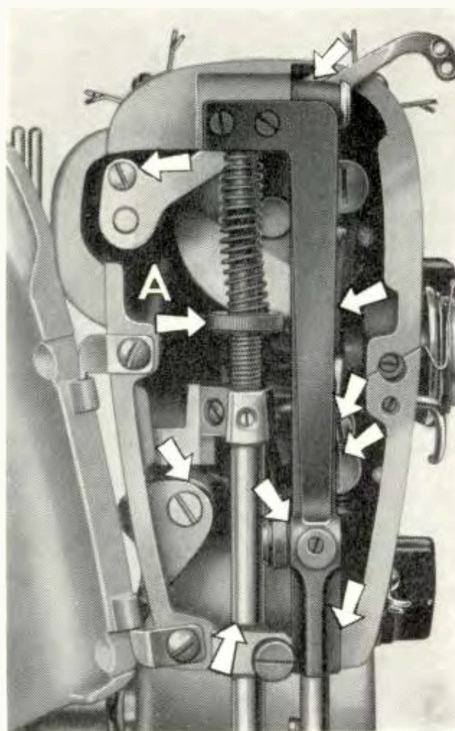

Fig. 64.
Other places where the machine needs oiling occasionally are shown by arrows in Figs. 64 and 65. To get at them you pull open the cover plates at the left end of the upper arm and at the back of the machine (with the spool pins fixed to it).
2. Feed dog may be lowered. Drop feed knob (25) should be turned so that the stitch symbol is in front.
3. Insufficient pressure on the pressure foot. Increase the pressure by turning the regulating screw (A, Fig. 64) to the right.
6. Insufficient pressure on the presser foot, especially when sewing thick fabrics. Turn the pressure regulating screw (A, Fig. 64) to the right.
3. Presser foot pressure too great. Turn regulator screw to left (A, Fig. 64)
1. Too much pressure on the presser foot. Reduce by turning the pressure regulating screw (A, Fig. 64).